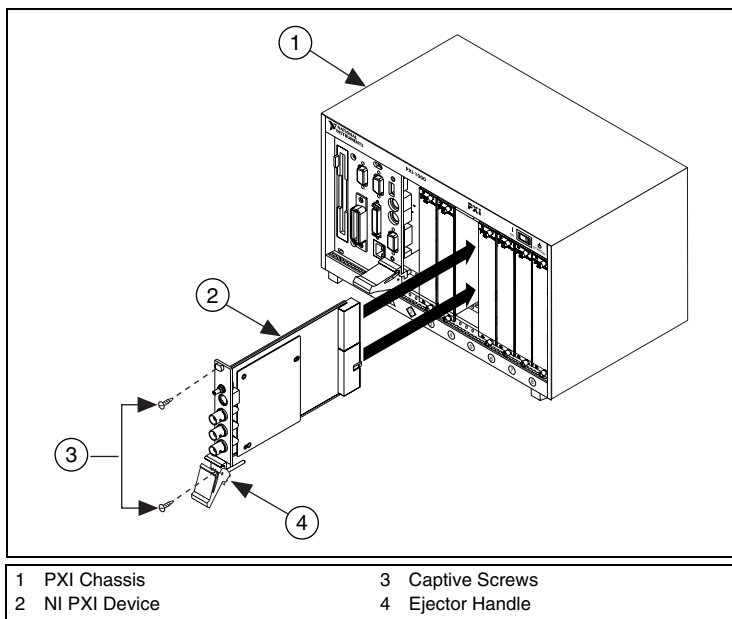

Figure 1. PXI Installation
3. Insert the device into an available PXI slot as shown in Figure 1 until the ejector handle locks in the up position, and tighten the captive screw(s).